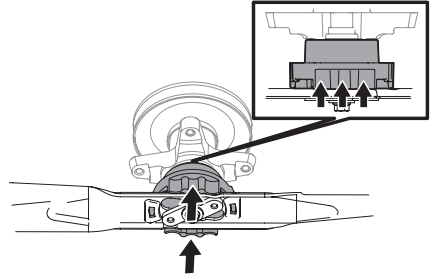

Figure 43
3. Push upward on the blade collar and hold it (Figure 43).
4. Push the blade upward against the blade adapter until the collar above rises (Figure 43 on page 31).